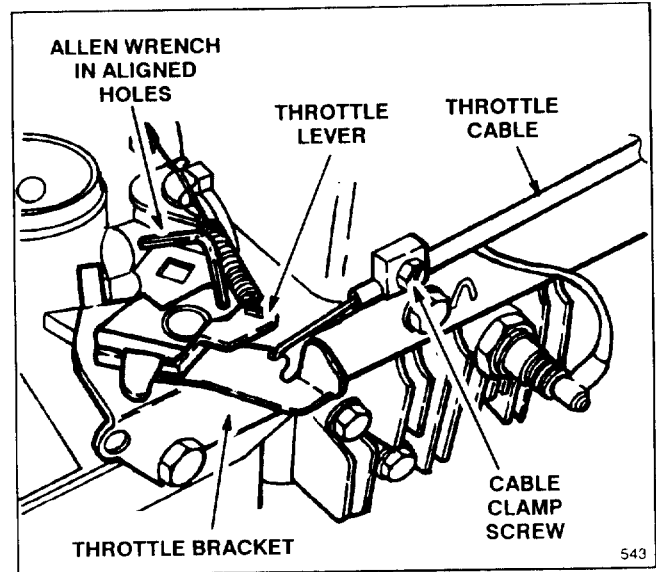

Figure 15
3. Loosen cable clamp screw until throttle cable slides (Fig. 15).
(Fig. 15). Use an allen wrench, small drill or pin to hold alignment.